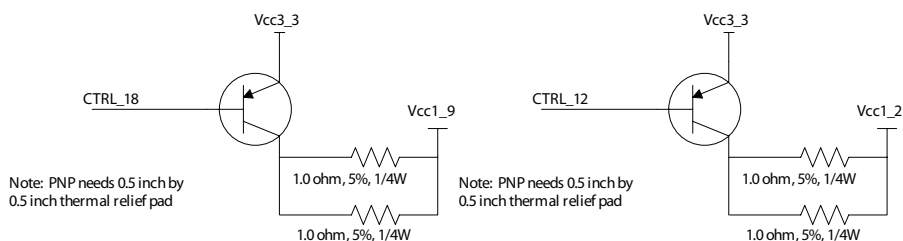
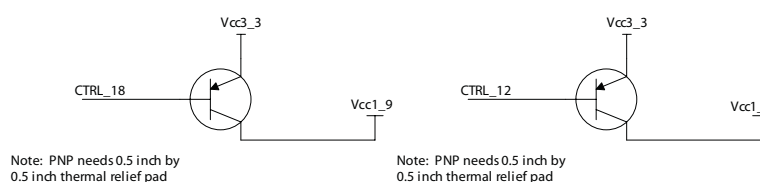

Figure 5. 82563EB 1.9V and 1.2V internal LVR schematic
Figure 6. 82564EB 1.9V and 1.2V internal LVR schematic
- The 82563EB/82564EB analog voltage (1.9V) will never exceed the 3.3V supply at any time during the power up. This is because the 1.9V supply is generated from the 3.3V supply when using the internal voltage regulator control logic (see Figure 5 and Figure 6 for a schematic of the internal LVR circuit). The 1.9V supply will track the 3.3V ramp.
- The 82563EB/82564EB core voltage (1.2V) will never exceed the 3.3V at any time during the power up. This is because the 1.2V supply is generated from the 3.3V supply when using the internal voltage regulator control logic (see Figure 5 and Figure 6 for a schematic of the internal LVR circuit). The 1.2V ramp is delayed internally to prevent it from exceeding the 1.9V and 3.3V supply at any time. The delay is proportional to the slope of the 3.3V ramp.
The effective resistance of the pass resistors should be approximately 0.5Ω and have a combined power dissipation rating of 0.5 Watts for the 82563EB. Figure 5 shows the recommended implementation.
Note: No resistors are required for the 82564EB as shown in Figure 6 due to the reduction in current demand. See Figure 4.9 for more details regarding power consumption.